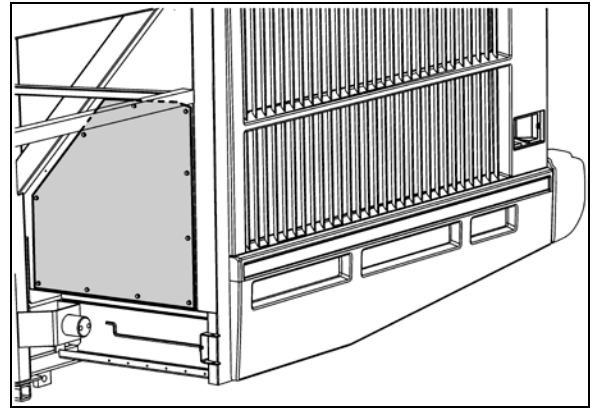

FIGURE 22: ACCESS PANEL BEHIND TAG AXLE WHEEL
7. Unfasten cap screws and remove access panel located behind tag axle L.H. side wheel (refer to Figure 22).